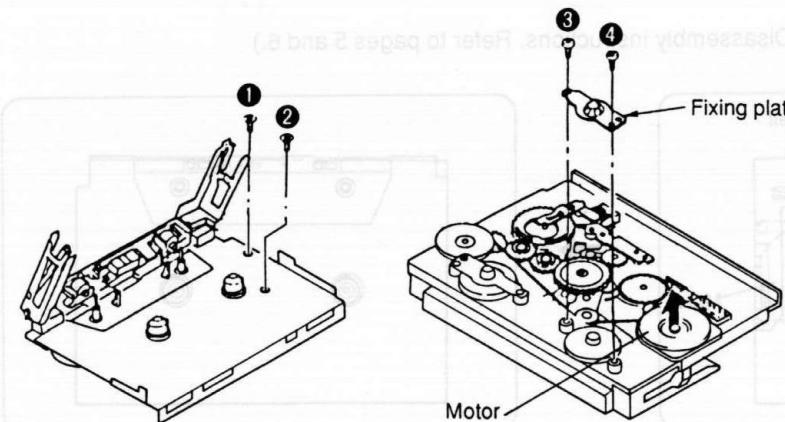

Fig. 1
- Remove the 2 screws(①, ②). (Refer to Fig. 1.)